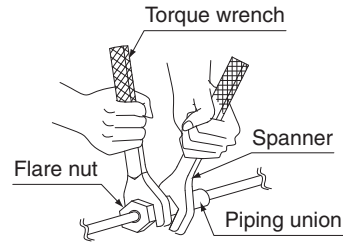

Fig. 4
(1) Connect the piping.
- When connecting or disconnecting piping to or from the unit, **be sure to use a spanner and a torque wrench.** (Refer to Fig. 4)